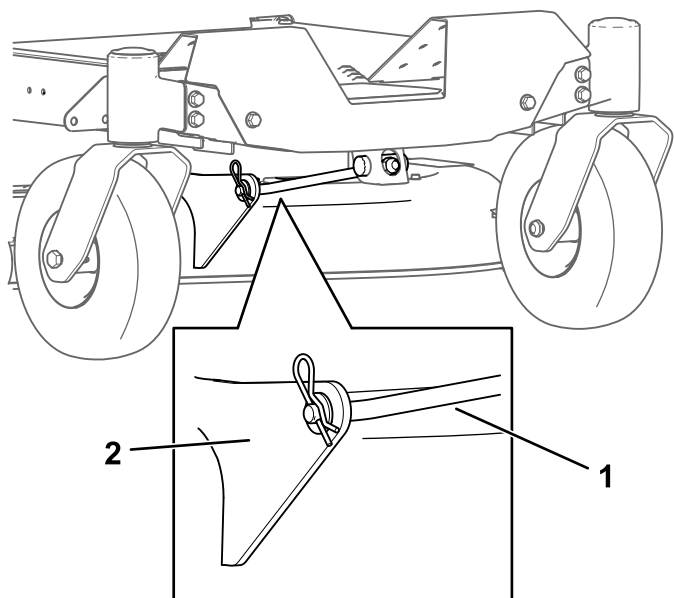

Figure 64
4. Remove the hairpin cotter from the front support rod, and remove the rod from the deck bracket (Figure 64).
8. Attach the front support rod to the mower deck with the clevis pin and hairpin cotter (Figure 64).